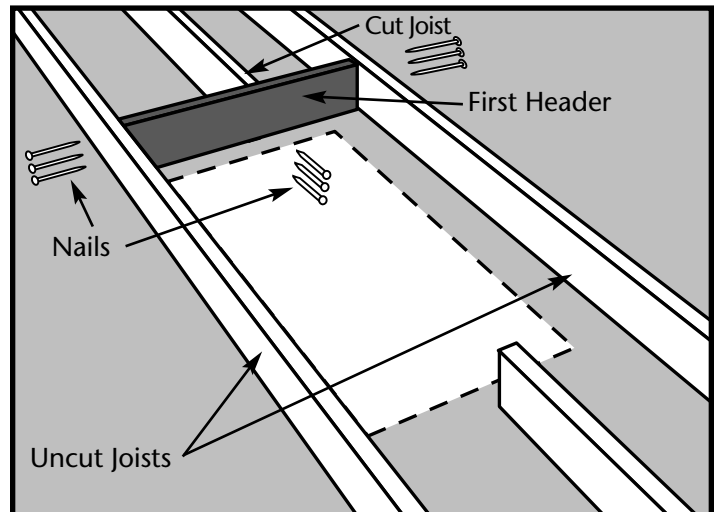

Figure 16
- STEP 3.** Place one of these headers against the end of the cut joist(s) as shown in Figure 16. It must fit snugly between the uncut joists. Hammer it into position if necessary; if it is more than 1/16 inch too long, trim it. If it is more than 1/16 inch too short, cut another piece.
- STEP 4.** Square the header to the uncut joist and nail the header to the end of the cut joist(s) with 3 nails (16d) as shown in Figure 16.
- STEP 5.** Check header for squareness then drive 3 nails (16d) through each joist into each end of the header as shown in Figure 16.